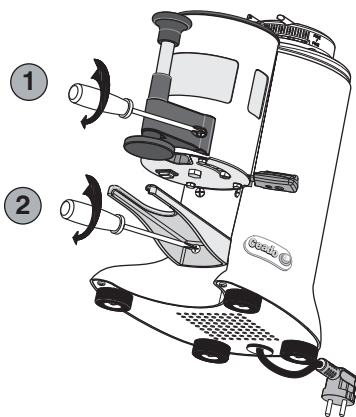

Fig. 15
- 5** Correctly tighten the retaining screws of both the telescopic press (1, Fig. 15) and the new fork (2, Fig. 15).